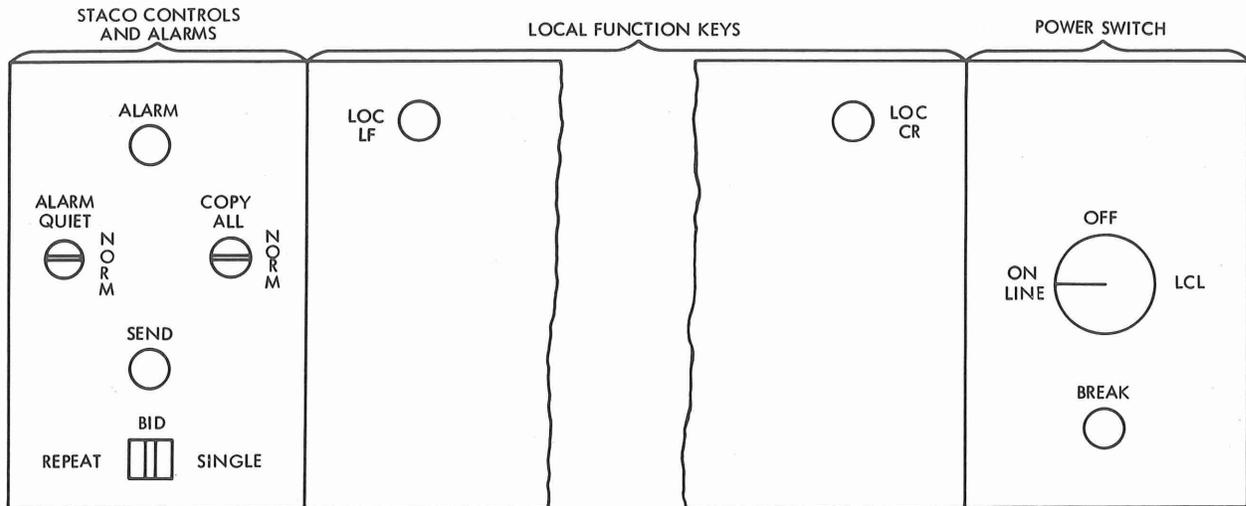
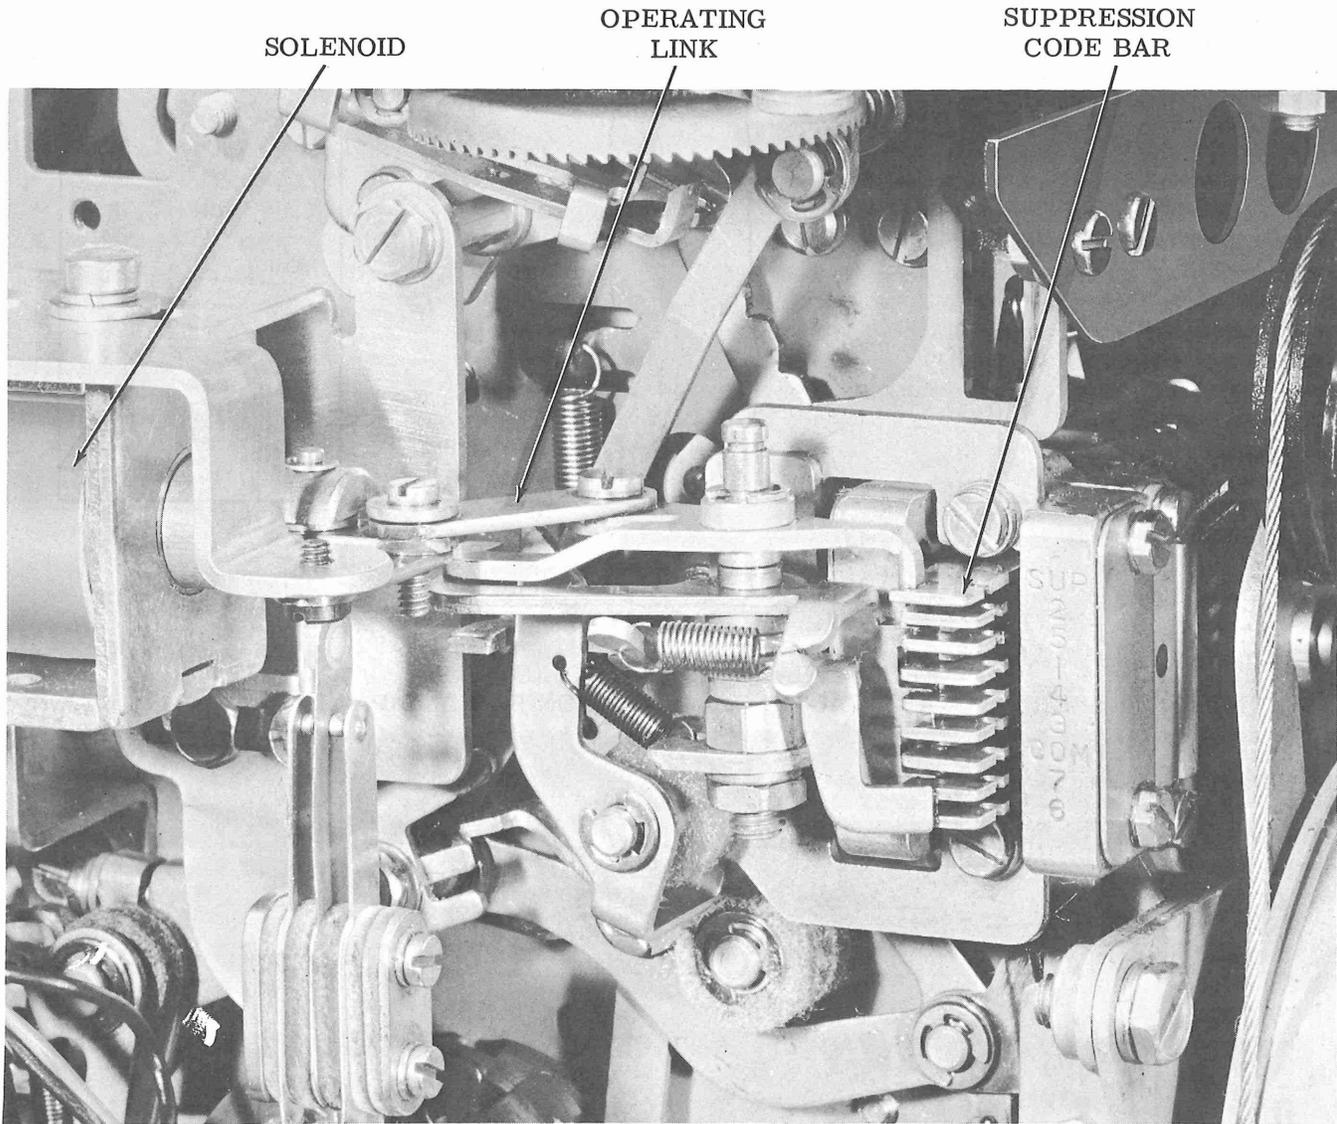

Figure 4 - RO Control Panel
Figure 6 - Print Suppression Mechanism Mounted on Typing Unit
2.07 The station controller assembly is attached to a relay rack in the pedestal. The 8B1 station controls and indicator lamps are located on the left side of the control panel (Figure 4). The print suppression mechanism and stunt box function bar elements are mounted on the typing unit (Figure 6).
2.13 The typing unit is equipped with a solenoid operated, print suppression mechanism (Figure 6) to facilitate PRINT and NON-PRINT conditions. The mechanism is capable of enabling or disabling both the printing mechanism and certain function bars by shifting the suppression codebar. When the solenoid is energized, the operating link shifts the suppression codebar to the spacing (print) position.